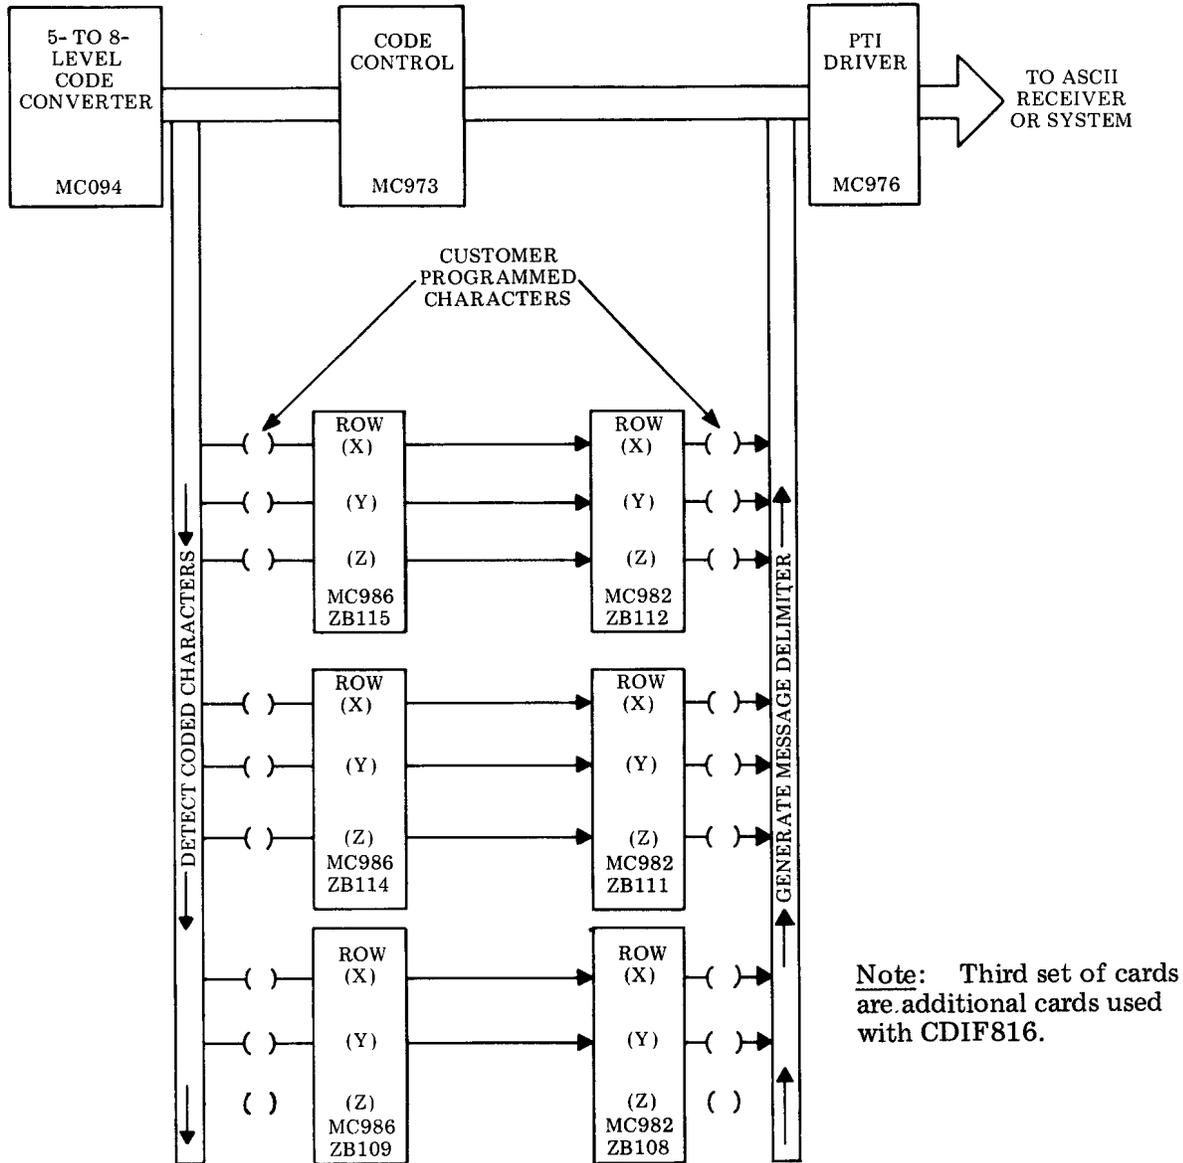

Figure 20 - CDIF806 and CDIF816 Receive Section 5- to 8-Code Converter
5.88 The MC986 output inhibits the MC973 output and activates the MC982 character generator. MC982 (5.93) may be programmed and can generate up to six different ASCII characters (or special message delimiter codes). Figure 20 illustrates the preceding sequence.
5.91 Program circuit cards from connectors ZB114 and ZB115 (CDIF806 and CDIF816), and ZB109 and ZB106 (CDIF816) rows X, Y, and Z to recognize up to six ASCII characters. For a permanent reference of the programmed cards, record the characters in the empty parentheses opposite the identified circuit cards shown in Figure 20. ASCII code information can be found in Figure 17.
Note: Row Z is not programmed in CDIF816, card location ZB107 and ZB108 (MC982) (Figures 20 and 21).
Note: Row Z is not programmed in CDIF816, card location ZB106 and ZB109 (MC986) (Figures 20 and 21).